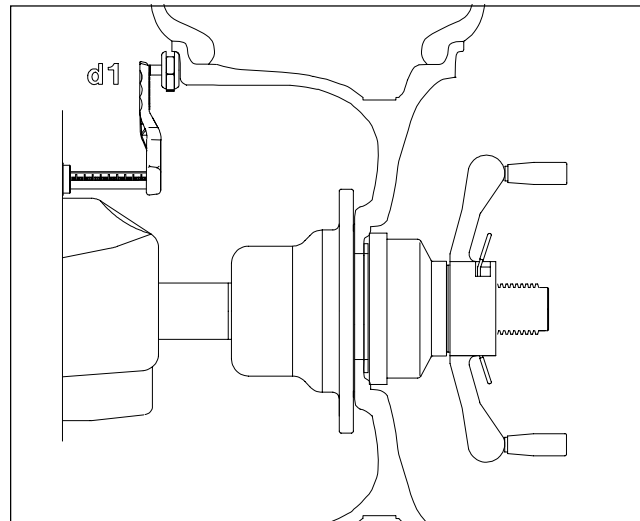

Figure 31
2. Extend the rim offset gauge arm and touch the position of the left weight position. See Figure 31. The display will read "**d - 1**". The high tone will sound when dimension is entered. Return the gauge arm to the rest position, a low pitch tone will indicate when it is OK to proceed.